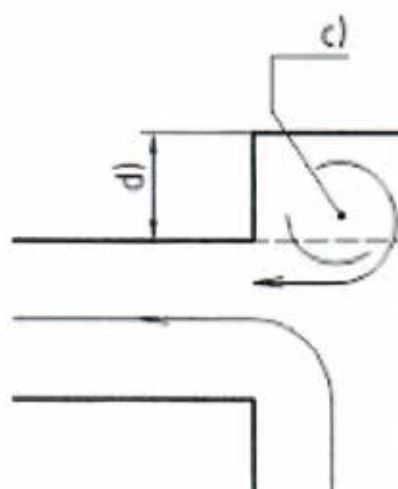

Figure 3. Recirculation in T-piece (correct)
Figure 3, Figure 4 Figure 5 show how a recirculation occurs in a branch of a pipe. This happens whether it is an up-stand as shown in Figure 5 or an upward facing dead leg on a pipe, as shown in Figure 3 Figure 4. If the dead leg is appropriately short, then the recirculation does not reside entirely in the dead leg (see: Figure 3). The mean flow rate in the recirculation is usually significantly reduced compared to the mean flow rate of the main flow, but locally the velocities can be much lower. If the dead leg becomes very deep (it may even be one at a depth of 3D), then two recirculation may occur, with the mean velocity again dropping dramatically in number two. The phenomenon and typical mean flow rates are shown for an up-stand in Figure 5.
1. A dead leg with the flow direction going towards the dead leg, as shown in Figure 3, has the best conditions for exchanging fluid and there is a reasonably good effect of the flow into the dead leg. Small additions to such solutions can improve the hygienic performance significantly, like e.g. a temperature sensor placed in the dead leg.